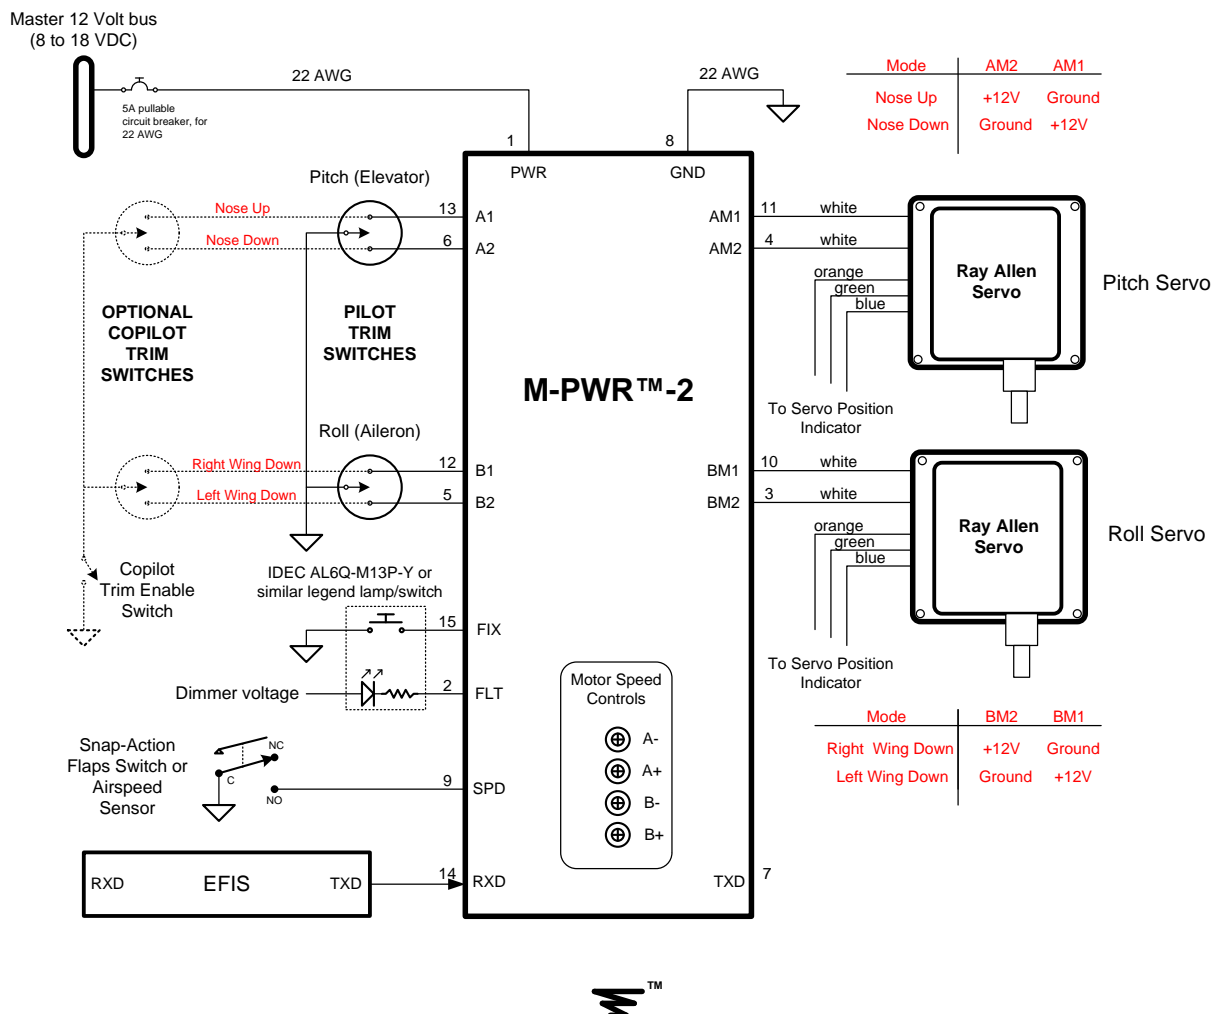

Figure 2. Typical Installation of M-PWR-2A or M-PWR-2AT (Enhanced Versions)
1. Connect the M-PWR-2A or M-PWR-2AT device according to Figure 2. It is very important to connect the wiring correctly in order for auto-trim to work properly with the M-PWR-2AT version. It is possible to connect the wiring so that manual trim controls work properly, but auto-trim works in reverse. This is dangerous and must be avoided.